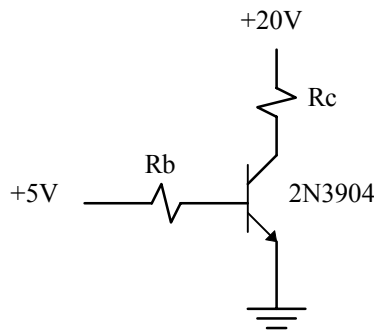
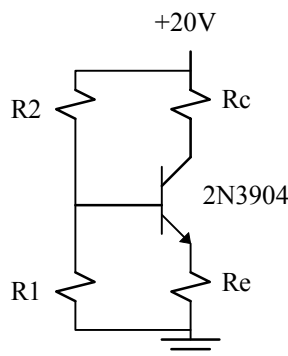

Figure 7-3: Fixed biasing scheme.
Figure 7-4: Self-biasing voltage divider scheme.
- 3) Calculate the necessary biasing resistor (R_b) to achieve a V_{CEQ} of 8V for Figure 7-3. Assume that $R_c = 1.33$ kohms (this will give $I_c = 9$ mA) and that $\beta = 100$. Repeat calculations for $\beta = 300$. Simulate this circuit in PSPICE. From PSPICE, determine through trial and error, the exact R_b that achieves the necessary Q-point. You must run a DC bias point analysis and enable all the bias current and bias voltage displays. This schematic must be included in your prelab. From the R_b determined through PSPICE, determine the value of β that PSPICE is using in its calculations. Also verify that the R_b obtained through PSPICE lies between the two R_b 's that you had calculated for the extreme β s of 100 and 300.
- 4) Calculate the necessary biasing resistors for Figure 7-4 to achieve the same Q point ($V_{CEQ} = 8$ V and $I_{cq} = 9$ mA) as in part 3. Assume that β is 100, $V_e = 3$ V and $R_b = .1\beta R_e$. (Hint: From these constraints you can calculate R_e , R_c , R_b , V_{bb} , and finally R_1 and R_2). Repeat calculations with $\beta = 300$. Simulate both these circuits in PSPICE. Run a DC bias point analysis and enable all the bias current and bias voltage displays. Notice how close the two results are. What does this tell you about β stability of this design?
In order to use a transistor in an amplifying circuit it has to be biased. In other words, a Q point has to be set in order to place the device in the active region of operation. There are several methods which can be used bias a transistor. Figures 7-3 and 7-4 demonstrate two possibilities.
The first scheme (Figure 7-3) is called a fixed bias scheme. In a fixed biasing the base current is set through a base resistor and the emitter of the transistor is grounded. This scheme is not used in practice since the Q point depends very strongly on β .
This lab will require interactive participation from all of the groups. In part 3 of the procedure, the groups will investigate the biasing scheme in Figure 7-3 and Figure 7-4. Each group will record on the board the β of their transistor, the resistor values, and the Q points obtained for each of the two biasing schemes. This data should be copied at the end of the lab by everyone for use in writing the lab report.